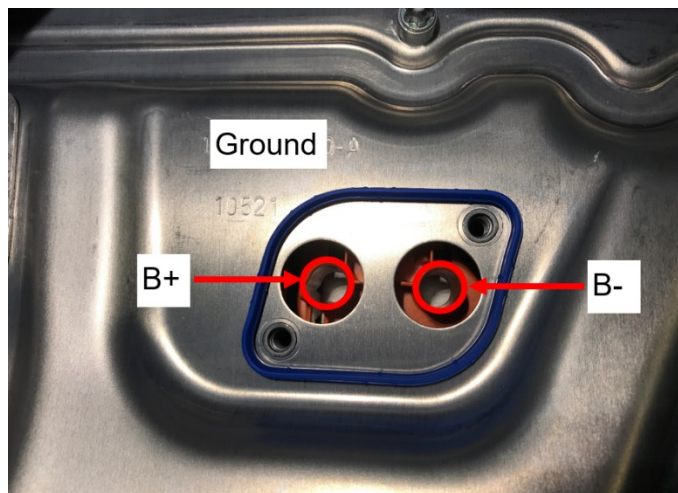

Figure 6
- Use the penthouse casing as a chassis ground. Measure the voltage across the following locations (Figure 6):